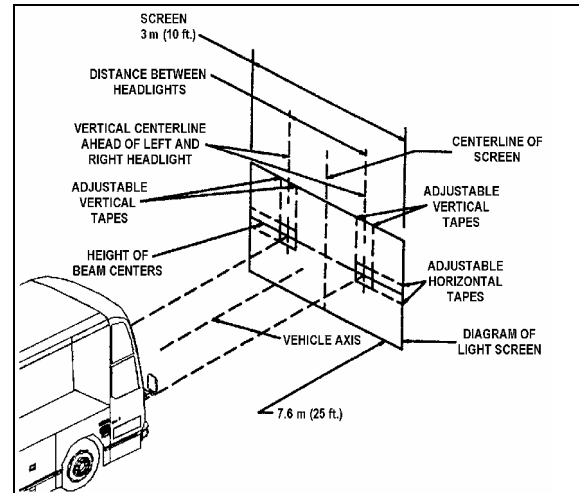

FIGURE 57: A LIGNMENT OF HEADLIGHT AIMING SCREEN
- The headlight centerlines shall be spaced either side of the fixed centerline on the screen by $\frac{1}{2}$ the lateral distance between the light source centers of the pertinent headlights. The horizontal tapes should be located on the screen at the upper and lower limits called for in the specification with reference to the height of beam centers and the plane on which the vehicle rests, not the floor on which the screen rests (Fig. 57).